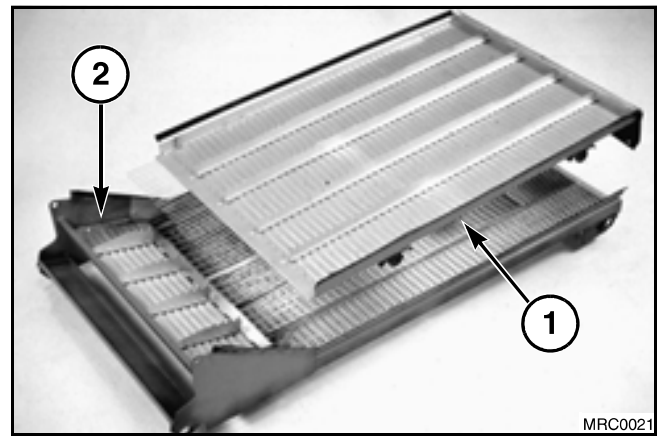

FIG. 361
FIG. 361: The separator return pan (1) and cascade pan (2) must be checked regularly and kept clean of mud and material that can accumulate and harden on the pans. The extra weight can cause severe damage to the pans and the shaker shoe drive components.